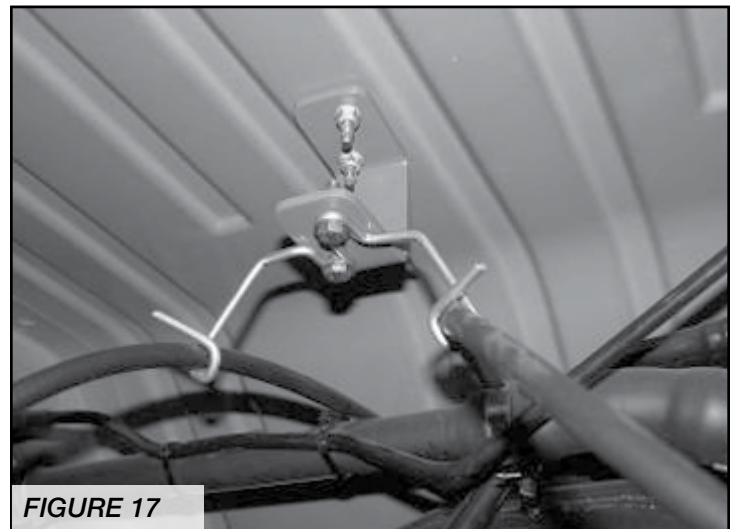

FIGURE 17
23. Locate FT50298 E-Brake Bracket and supplied 1/4" hardware. Position the bracket to the factory mounting position and attach with the factory hardware. Attach the factory bracket to the new Fabtech bracket with the 1/4" hardware. Torque to 10 ft -lbs. SEE FIGURE 17